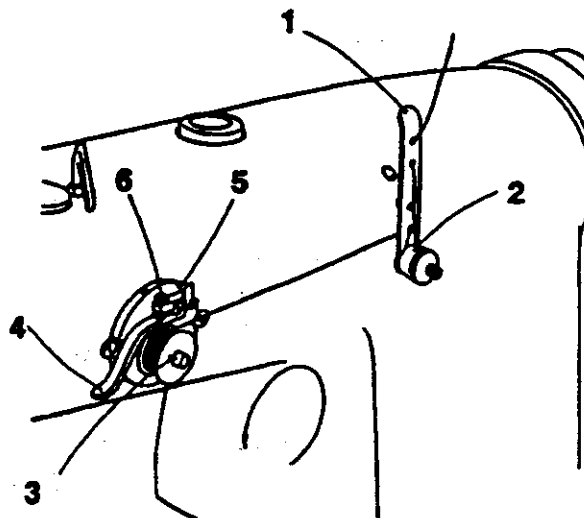

Fig. 7
9. To wind the hook bobbin (Fig. 7)